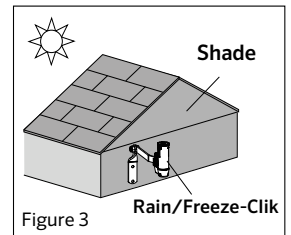

Figure 3
- Correct placement of the Rain/Freeze-Clik model is important for accurate temperature sensing. The best location would be out of direct sunlight (Figure 3).